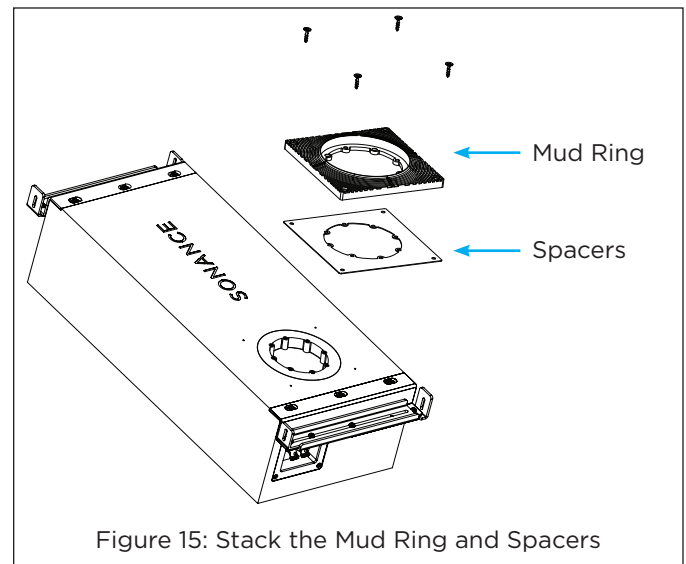

Figure 15: Stack the Mud Ring and Spacers
3. Stack the appropriate spacers with either a round or square mud ring (see Figure 15).
- Fasten the mud ring at all four corners using the four included wood screws (see Figure 15).